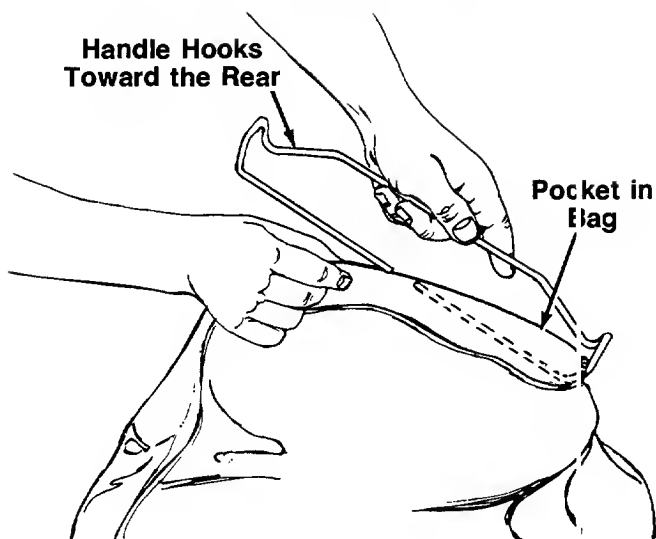

FIGURE 12.
3. Attach the rear handle to bag by inserting one side of handle into pocket on the rear of the bag. The handle should hook toward the rear of the bag as shown in figure 12. Thread all the material onto one side, then slide it over onto the other side. See figure 12.